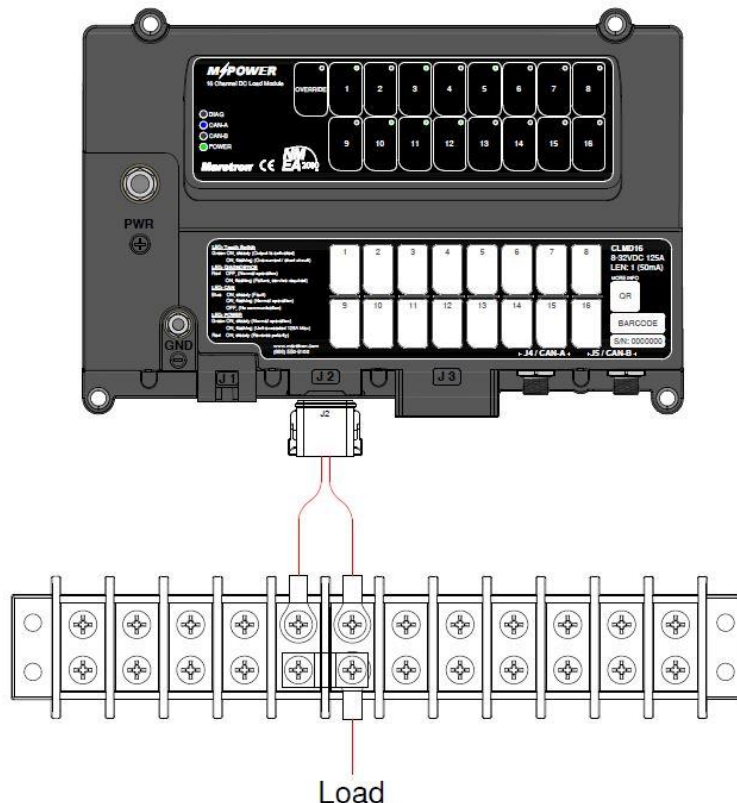

Figure 9 - Paralleled Breakers Connection Recommendation
- When connecting paralleled breakers to a load, both cable lengths connected to the load must be equal. Rather than running twin cables, it is often easier to connect the two outputs together at a terminal block by using a jumper, and then running a suitably sized single cable to the load. This ensures a matched impedance. (see: Figure 9)